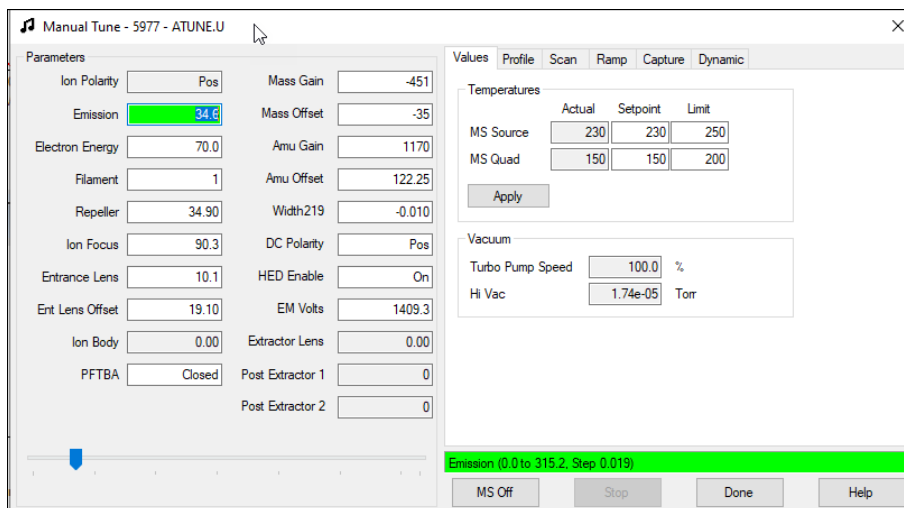

Figure 30 Manual Tune Values tab HiVac reading
- 4 Select the **Values** tab to view the HiVac reading. (See **Figure 30**.)